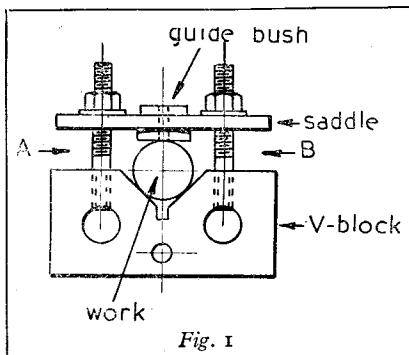
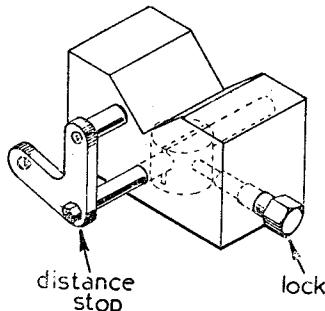
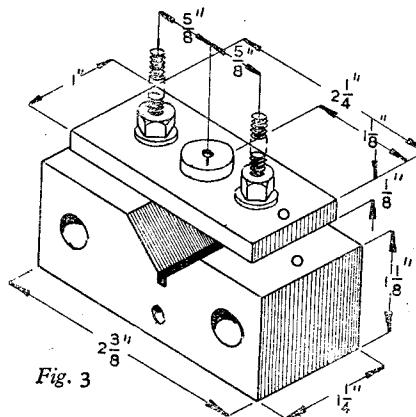
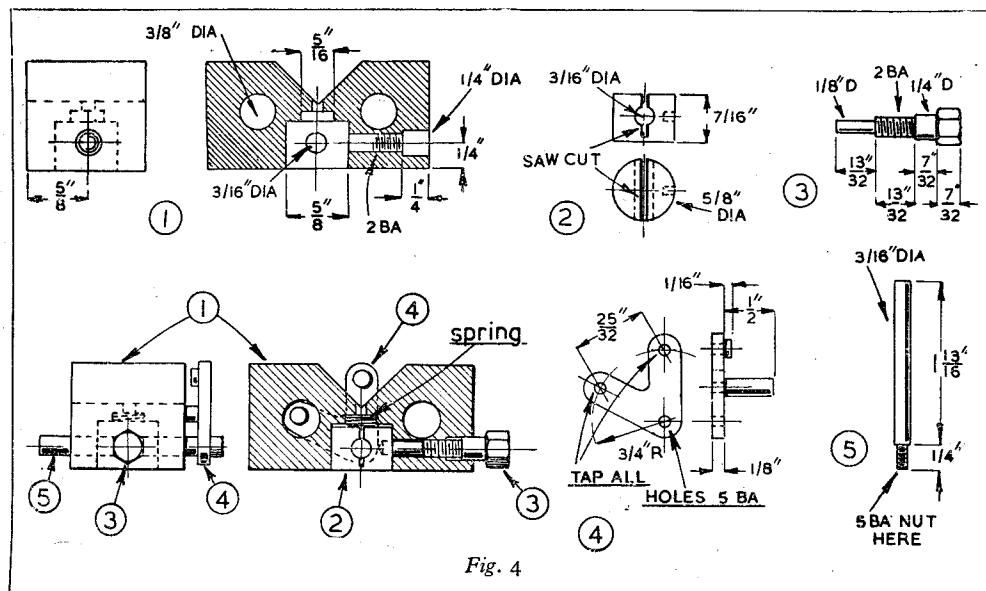

Fig. 1
Fig. 2
Fig. 3
Fig. 4
THE simple type of cross-drilling jig illustrated in Fig. 1 is easily made and will be found a useful piece of equipment for drilling shafts of from $\frac{1}{2}$ in. to 1 in. in diameter. Moreover, as shown in Fig. 2, a work- or distance-stop can readily be fitted for the quick and accurate end-location of parts when repetition work is undertaken.
The dimensions of this part are shown in Fig. 3 and also in the working drawings in Fig. 4 (i), and although these measurements are those actually used, there is no necessity to adhere strictly to them, provided that the material selected is large enough to accommodate the essential fittings.
The V-block is now transferred to the drilling machine, and to facilitate the fitting of the work-stop at a later stage, a $\frac{1}{8}$ in. diameter hole is drilled centrally in the floor of the V, as shown in Fig. 4 (1). Following this, the block is gripped,
The main dimensions of the saddle are given in Fig. 3, and it will be observed that one end is marked with an -O- to correspond with a similar figure on the upper surface of the V-block in order to ensure that the jig is always correctly
After the piece of mild-steel strip forming the saddle has been filed and scraped flat, it is marked-out in accordance with the drawings in Figs. 3 and 6. The central hole is drilled and then reamed to $\frac{1}{2}$ in. diameter to accommodate a
guided by the drilled holes in the saddle, and is fed in to meet the large cross-holes as represented in Fig. 1. A letter D drill is then used to enlarge the holes in the saddle and also to make light countersinks in the upper surface of the block. The stud holes are tapped truly by mounting a No. 2-B.A. tap in the drill chuck and turning the machine spindle, either by rotating the driving pulley by hand or by using a handle, specially made for the purpose, attached to the upper end of the spindle.
The general arrangement of this assembly is shown in Fig. 2, and the detailed dimensions of the several parts are given in the working drawings in Fig. 4.
The block is now gripped in the machine vice and a No. 13 drill is used in the drilling machine to continue the previously drilled hole right through the clamp-piece, as represented in Fig. 2; this hole is then finished to size with a $\frac{3}{16}$ -in. diameter reamer. After removal of the clamp-piece by means of a brass punch inserted in the $\frac{1}{4}$ -in. diameter hole that was previously drilled in the floor of the V-groove, its periphery is treated with a strip of emery cloth to make it an easy push fit in its recess.
To allow the clamp-piece to close on the spindle of the work-stop and secure it in place, a cut is made with a fine hacksaw, as illustrated in the drawing in Fig. 4 (2).
silver-steel or other accurately-finished material; one end is turned down and threaded 5 B.A. to carry the quadrant and a lock-nut, as shown in Fig. 2.